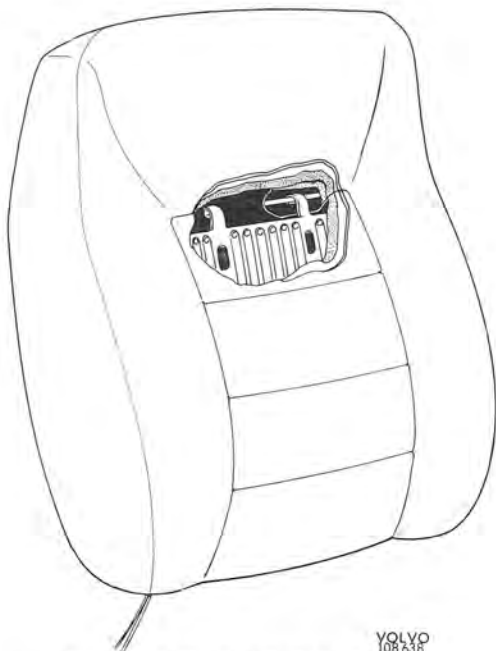

Fig. 8-52. Seat back heater pad attachment
7. Put the seat back on the side. Push the hands in under the upholstery, one on the front side, one the rear side, and unhook the heater pad from the frame (Fig. 8-52). Remove the pad.